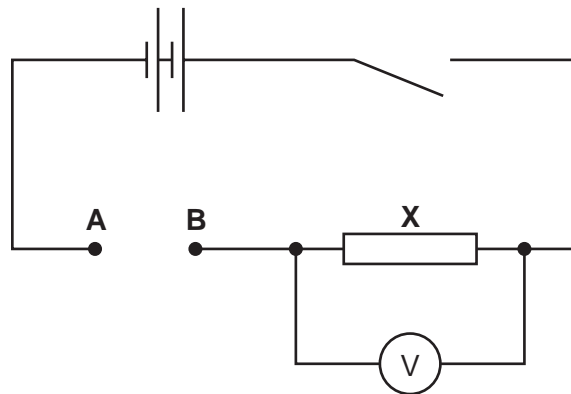

Fig. 4.1
Connecting leads to enable the Supervisor to set up the circuit shown in Fig. 4.1.
- (iv) In the circuit shown in Fig. 4.1, the points **A** and **B** should be clearly labelled.
- (v) At the changeover, the Supervisor should check that the circuit is still set up as shown in Fig. 4.1. The switch should be open. The additional resistors should be disconnected from the circuit and all the labels should still be in place.